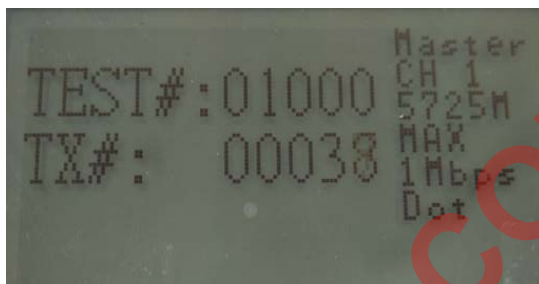

Fig 21
4. Delivering default 64 bytes payload (PN9) as shown in Fig 21.